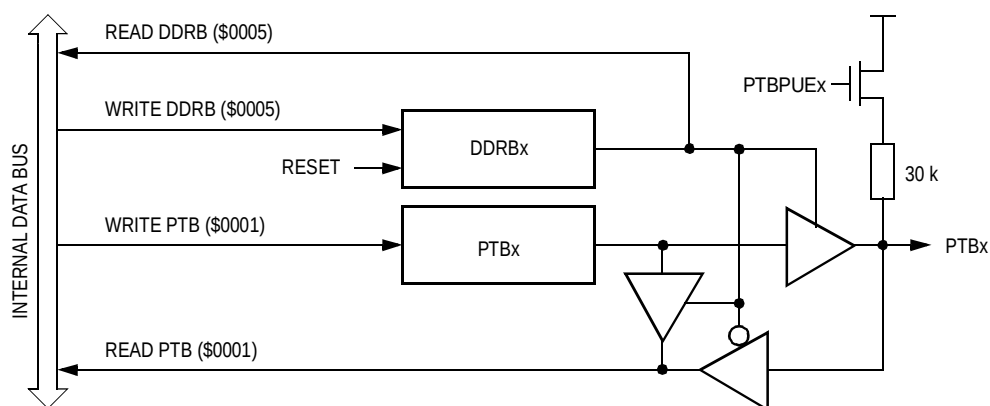

**Figure 12-8. Port B I/O Circuit**
**NOTE:** Avoid glitches on port B pins by writing to the port B data register before changing data direction register B bits from 0 to 1. Figure 12-8 shows the port B I/O logic.